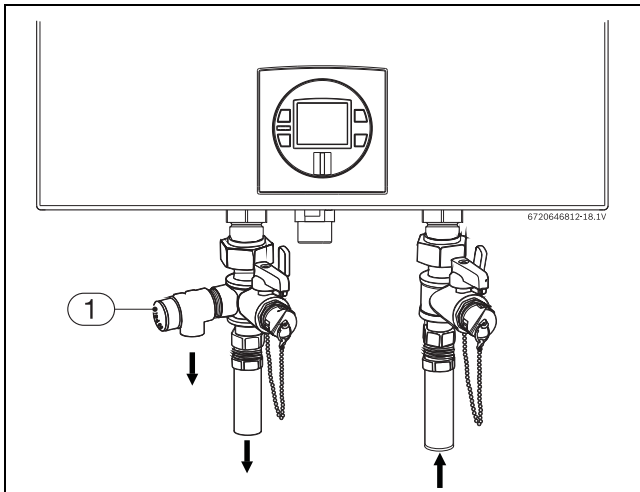

Fig. 33 Plumbing Connections (with shutoff valves) and Pressure Relief Valve
- ▶ Full port shutoff valves should be installed on both the cold water supply and hot water outlet lines to facilitate servicing the heater (see fig. 33).
A listed pressure relief valve must be installed at the time of installation. No valve is to be placed between the PRV and the heater. No reducing coupling or other restriction may be installed in the discharge line. The discharge line must be a minimum of 4" above a drain and installed such that it allows complete drainage of both the PRV and the line. The discharge line must be placed where it will not cause any damage. The location of the PRV must be readily accessible for servicing or replacement, and be mounted as close to the water heater as possible. See fig. 33. To install the PRV, a suitable fitting connected to an extension on a "T" fitting can be sweated to the hot water line. Support all piping.